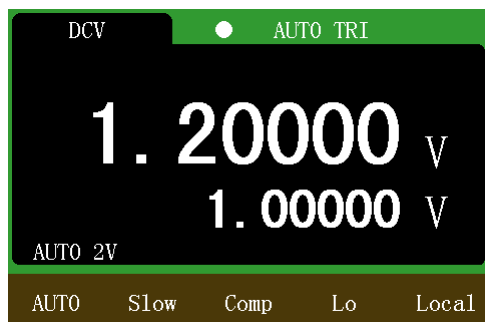
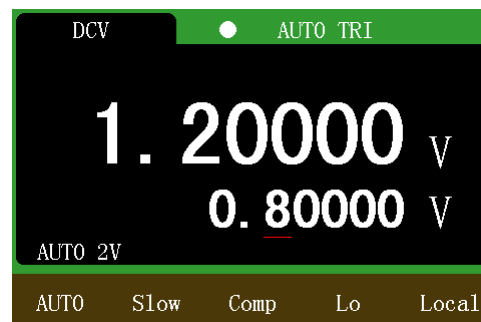

Figure 5-13 Lower limit comparison interface
Figure 5-14 Lower limit setting interface
2. Press  +  key combination to select the COMP LOW function, as shown in Figure 5-13. Press the key combination again to exit the COMP LOW function.
4. In the lower limit comparison interface shown in Figure 5-13, press the Enter key to call up the lower limit setting interface. The up / down / left / right arrow key can be used to modify the lower limit, as shown in Figure 5-14.